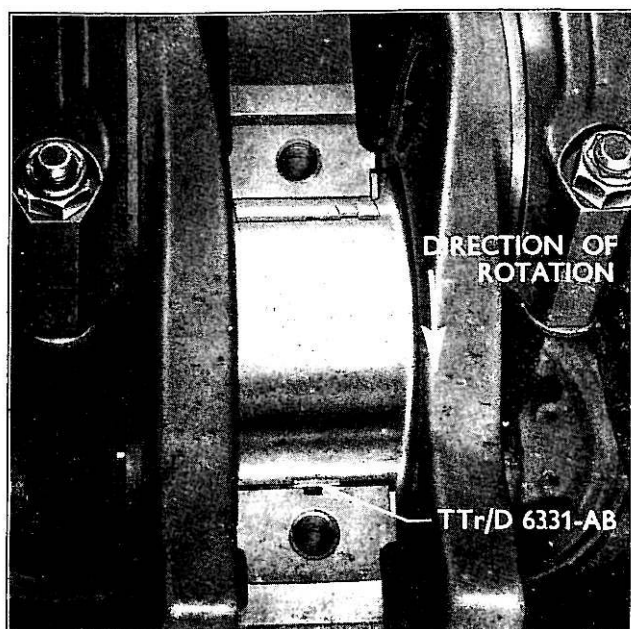

Fig. 42
- 4 Carefully **turn** the crankshaft against the normal direction of rotation until the upper half of the liner is brought to such a position that it may be removed. (See Fig. 42.)